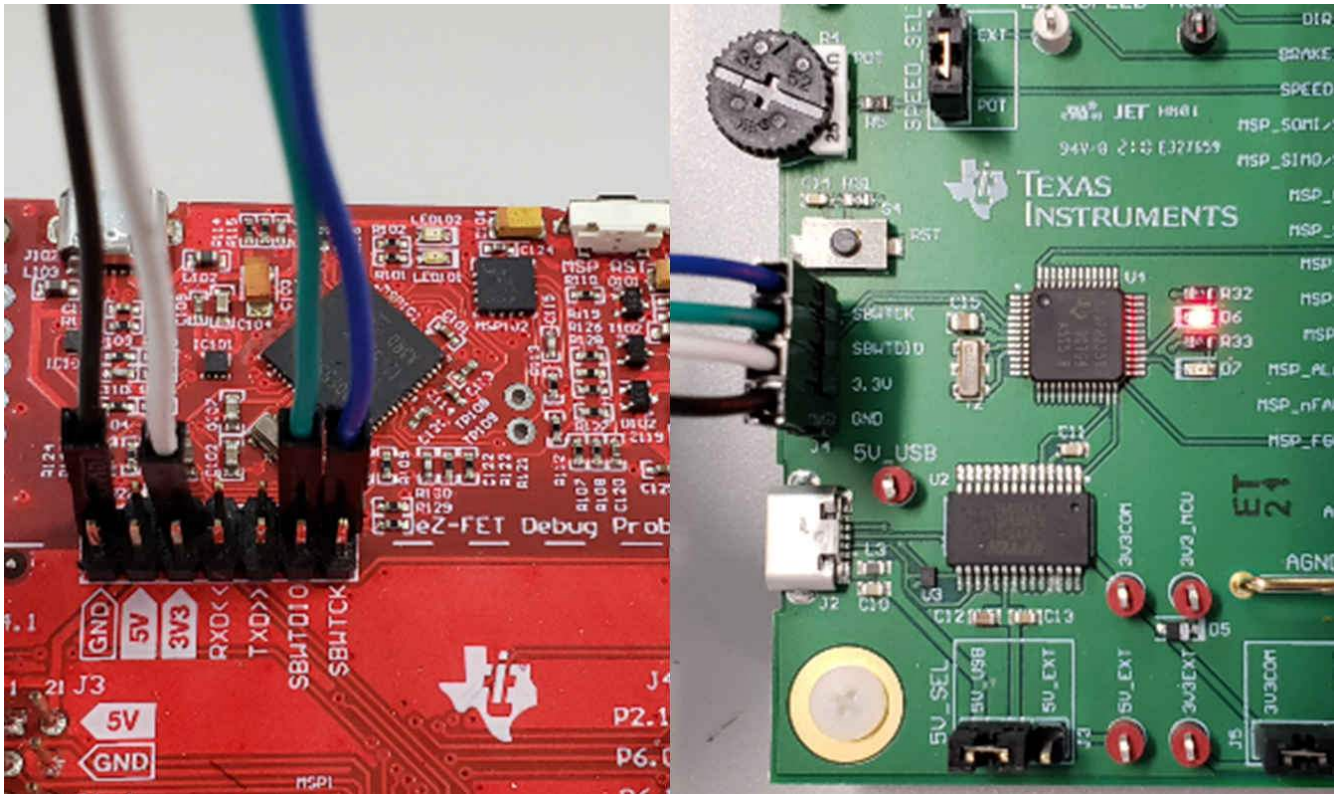

Figure 7-2. MSP430 LaunchPad™ eZ-FET Probe Connected to MCF8315EVM
2. Connect the top pins on the eZ-FET side of the LaunchPad of the GND, 3V3, SBWTCK, and SBWTDIO signals to their respective pins on J4 of the MCF8315EVM as shown in Table 7-1 and Figure 7-2.